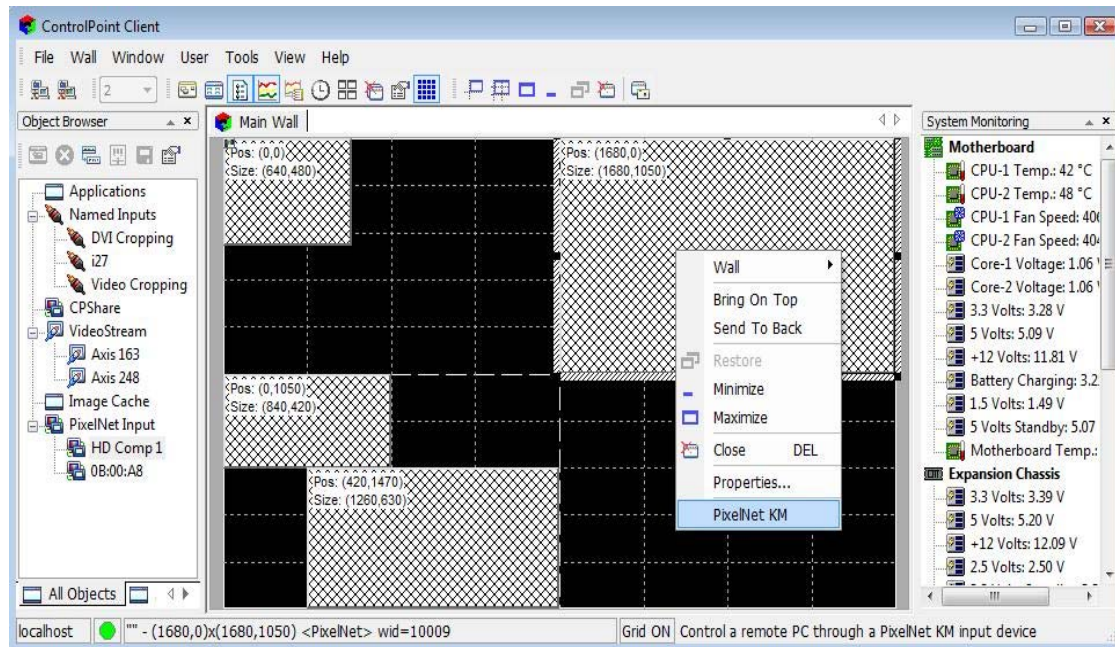

Figure 96 - PixelNet DVI KM (RemoteCursor)
- Drag an input node entry or icon to the Main Wall as shown in Figure 96.